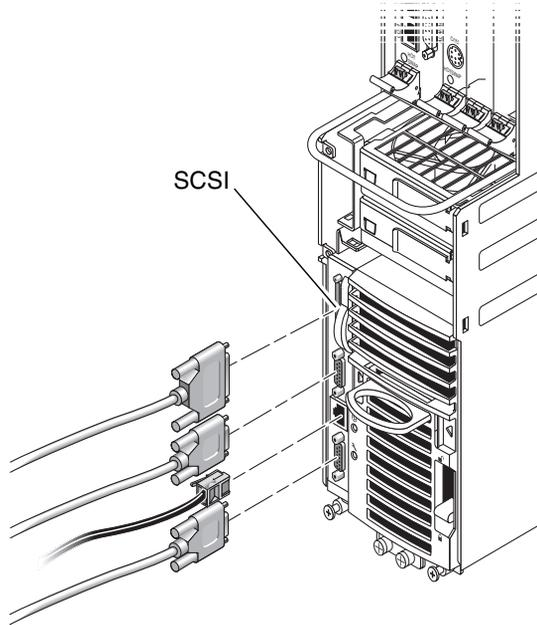
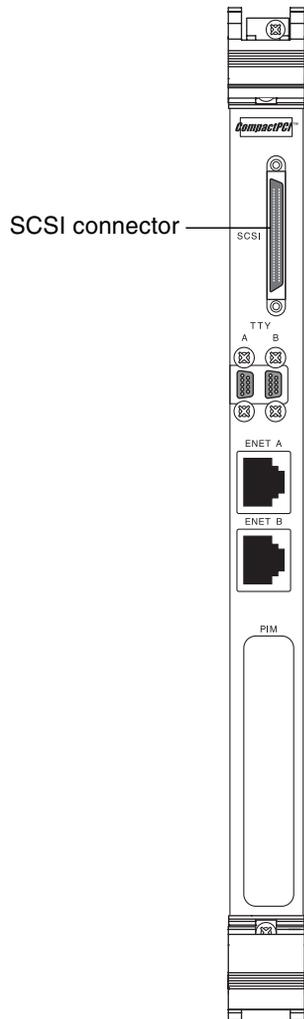

FIGURE A-1 Locating the SCSI Port on the Host CPU Front Transition Card (Netra CT 410 Server)
FIGURE A-2 SCSI Connector on the CPU Rear Transition Card
- If you have a *front-access model* Netra CT 410 server, the SCSI port is located on the host CPU front transition card to the left of the power supply (FIGURE A-1).
- If you have a *rear-access model* of either the Netra CT 810 server or the Netra CT 410 server, the SCSI port is located on the host CPU rear transition card installed at the rear of the chassis in I/O slot 1 for the Netra CT 810 server or I/O slot 3 for the Netra CT 410 server. FIGURE A-2 shows the locations of the connectors on the host CPU rear transition card. The host CPU rear transition card is the same for both the Netra CT 810 server and the Netra CT 410 server; only the location in the rear card cage differs.
- If you are connecting an external SCSI device to the host CPU front transition card for the Netra CT 410 server or the host CPU rear transition card for either Netra CT server, connect the VHDC side of the VHDC-to-SCSI 3 adapter cable to the SCSI port on the transition card (see FIGURE A-1 or FIGURE A-2).